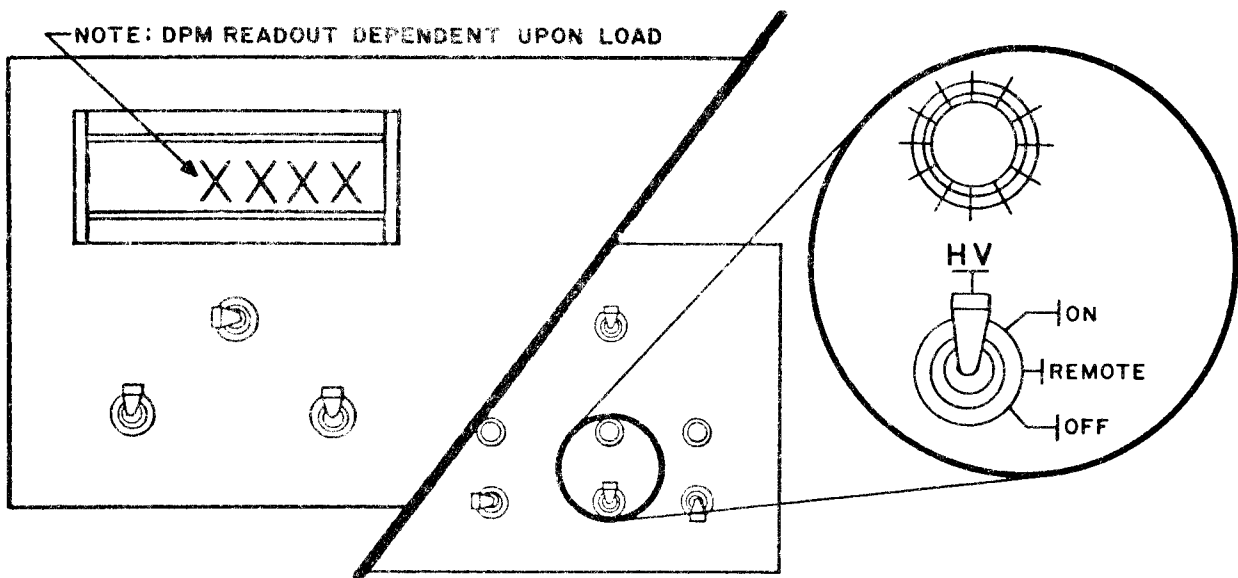

Figure 57. HV Switch to ON
- g. Wait thirty seconds after the POWER switch has been set to ON, then flip the HV switch to ON (see Figure 57). The DPM displays the voltage across the load.